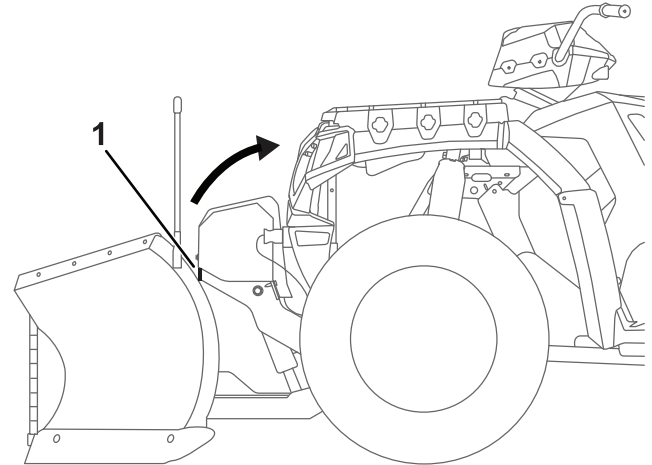

Figure 15
7. Using the coupler handle, push the coupler tower upward until the coupler spring pins snap in (Figure 15).